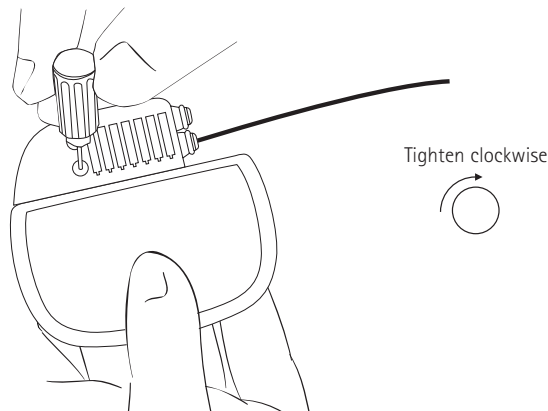

FIGURE 3
4. Turn the torque wrench clockwise to tighten the setscrew until the torque wrench clicks (see Figure 3).